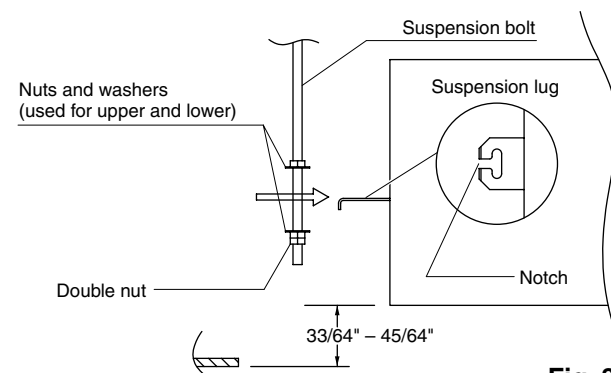

Fig. 3-32
- (3) Thread the 3 hexagonal nuts and 2 washers (field supply) onto each of the 4 suspension bolts as shown in the diagram. Use 1 nut and 1 washer for the upper side, and 2 nuts and 1 washer for the lower side, so that the unit will not fall off the suspension lugs. (Fig. 3-32)
- (4) Adjust so that the distance between the unit and the ceiling bottom is $33\frac{3}{64}$ " to $45\frac{1}{64}$ ". Tighten the nuts on the upper side and lower side of the suspension lug. (Fig. 3-32)
- (5) Remove the protective polyethylene used to protect the fan parts during transport.